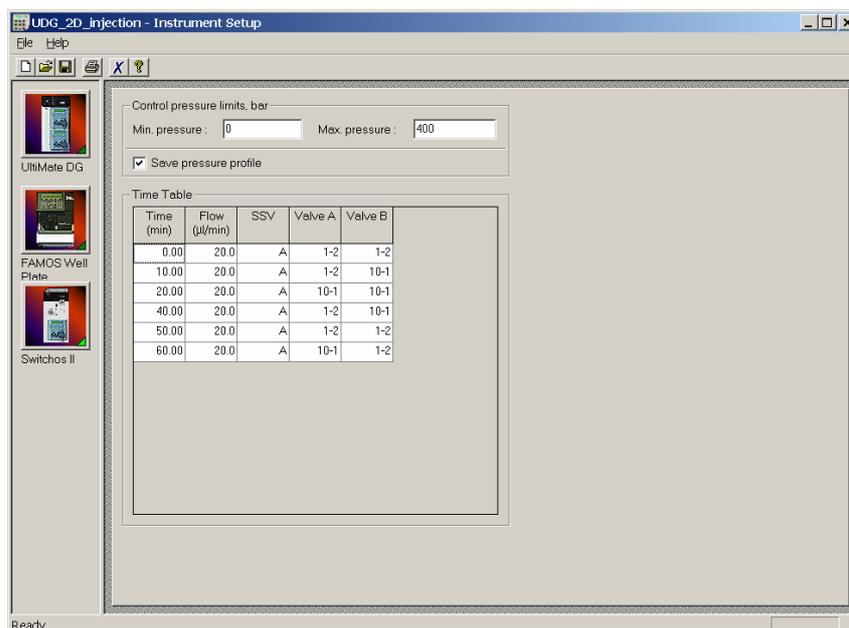

FIGURE 3-8 The Switchos Setup Window
- e) Choose the *Switchos II* icon in the **Instrument Setup** window to display the Switchos II setup window and to program the valve positions. For the 2D-LC application, the position for valve A and B are opposite in consecutive RP runs as presented in FIGURE 3-8.